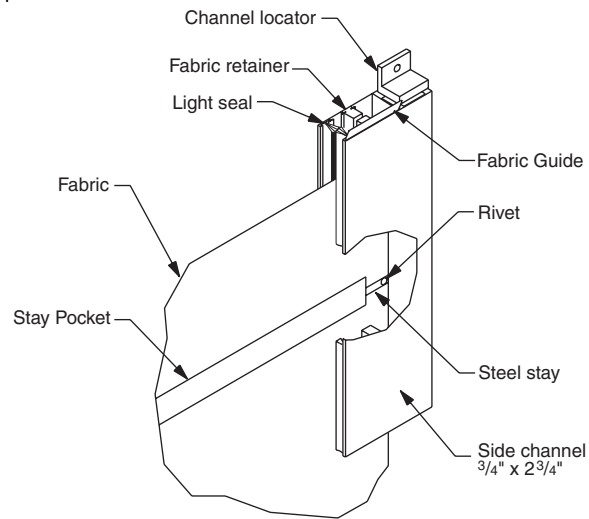

Figure 9
- ⑨ Check shade fabric. With fabric and slat all the way up, pull the slat bar forward, out of the head box and in front of the side channels. Activate the operator (crank, spring roller, bead clutch, or electric) to completely lower the shade fabric. Repeat several times. With the shade fabric hanging in front of the side channels, check fabric hang. The shade fabric should be hanging straight and equally spaced between the outside edges of the side channels. If the fabric is not hanging properly, adjust the head box by raising or lowering one end of the head box to bring fabric into proper alignment. Operate the shade again to re-check fabric position. If functioning properly, run the shade up to fully open position and re-insert slat bar and fabric into side channels (see Fig. 9). If misalignment still occurs, correct by sticking a small (approximately 2") piece of cloth tape directly to the roller to affect the direction the fabric runs. Fabric running off to the left may be corrected by placing the tape on the right end of the roller beneath the fabric. This, in effect, makes that end of the roller larger, causing it to take up more fabric. If this is a non-electric operated shade, proceed to step 12.